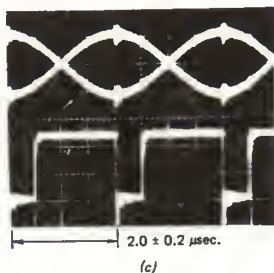

Fig. 5-7
- 32W** j. Check if the peak-to-peak value of the output waveform for "2F" is 0.35 ± 0.15 V (Refer to Fig. 5-7 (a))
m. Select "Uncal" on the timing axis of the oscilloscope and then such a waveform as shown in Fig. 5-7 (b) can be obtained.
- 32V n. Check if no jittery pulse follows the triggered one. (Refer to Fig. 5-7 (b))
- 32W o. Check if the pulses are issued from side 0 or 1 every $2.0 \pm 0.2 \mu\text{sec}$. (Refer to Fig. 5-7 (c))